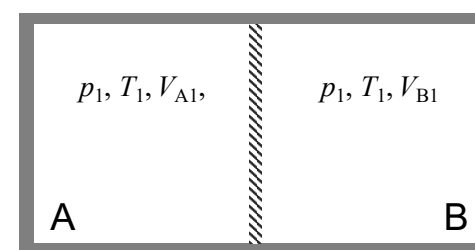
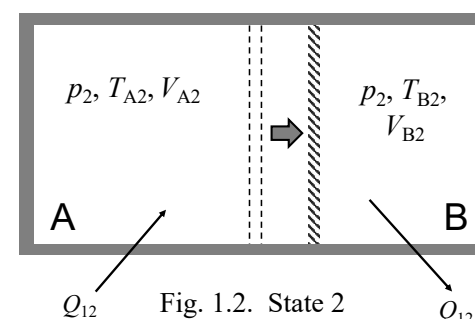

Fig. 1.1. State 1
Fig. 1.2. State 2
(I) Two chambers, A and B, are separated by a movable insulating wall as shown in Fig. 1.1. Although the wall seals the gas, it can move smoothly without any friction. Chambers A and B contain the same type of ideal gas, whose specific heat ratio κ is independent of temperature. At State 1, pressure, temperature and volume of the gas in Chamber A are p_1, T_1 and V_{A1} , respectively. Pressure, temperature and volume of the gas in Chamber B are p_1, T_1 and V_{B1} , respectively. Now the gas in Chamber A starts to be heated, and simultaneously the gas in Chamber B starts to be cooled, causing the movable wall to shift to the right. This process is quasi-static, and the heating rate of Chamber A and the cooling rate of Chamber B are equal. At the moment when the total amount of heat Q_{12} is added to Chamber A, i.e., at the moment when the total amount of heat Q_{12} is removed from Chamber B, heating of Chamber A and cooling of Chamber B are stopped simultaneously. This is State 2 as shown in Fig. 1.2. At State 2, pressure, temperature and volume of the gas in Chamber A are p_2, T_{A2} and V_{A2} , respectively. Pressure, temperature and volume of the gas in Chamber B are p_2, T_{B2} and V_{B2} , respectively. Assuming that the heat capacity of the chambers can be considered negligible, answer the following questions. (25 points)